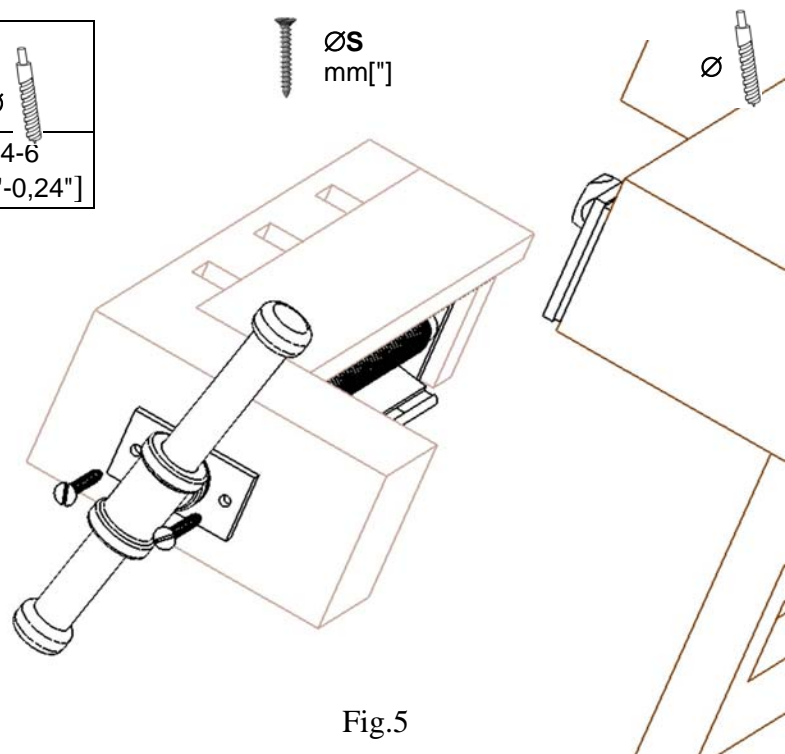

Fig.5
- We bolt spindle and nut. We can fast the face screw-bolt again See Page 5, Fig.5.